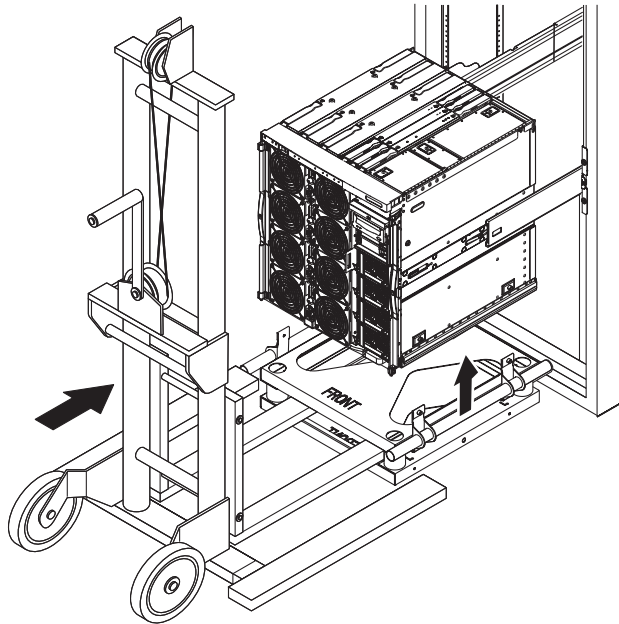

FIGURE 3-8 Lifting Device and Shipping Cradle
7. **Raise the shipping cradle up to the system. Place the front of the shipping cradle toward the front of the system (FIGURE 3-8).**